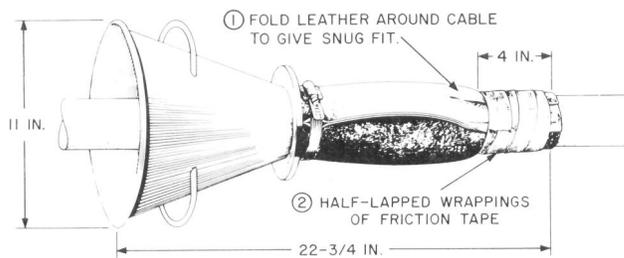

Fig. 3—D Cable Lubricator
2.05 The D cable lubricator consists of a sheet steel funnel (equipped with two handles), a flexible split-leather tube, and a hose clamp. It has a cover-type detail to fit over the bell mouth of the cable feeder. The leather tube is available as a replacement part. The D cable lubricator is illustrated in Fig. 3.
3.02 The D cable lubricator is used in applying lubricant to underground cable while it is being placed (Fig. 3).